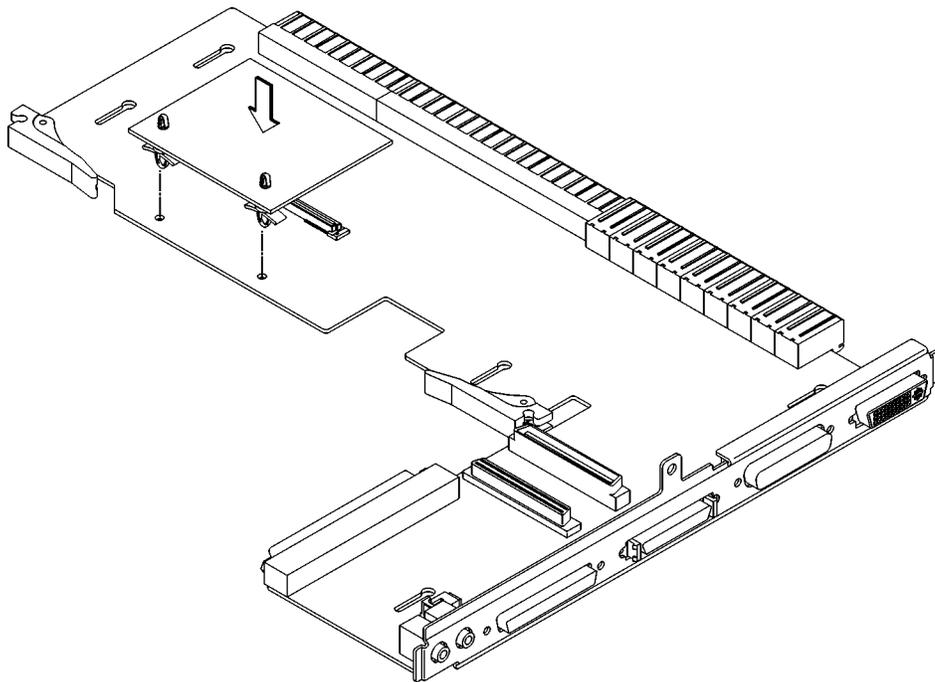

Figure 46 **Installing the EGRAM Module**
- 5 Install the standoffs into the EGRAM module, as shown in Figure 46. Push the standoffs into the holes on the module until the clips fully engage with the board.
- 6 Align the connector on the EGRAM module with the connector on the I/O board, while aligning the standoffs with les in the EGRAM module with the standoffs. See Figure 46.